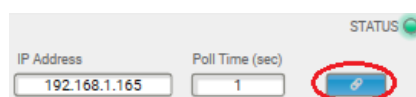

Figure 5 – Screenshot of IP Address text field and AmpLink button.
5. Enter the IP Address of the amplifier you wish to control into the text field (Figure 5).
6. Click on the *AmpLink* button to begin the initial amp settings read process and to begin the polling/connection scheme (Figure 5).